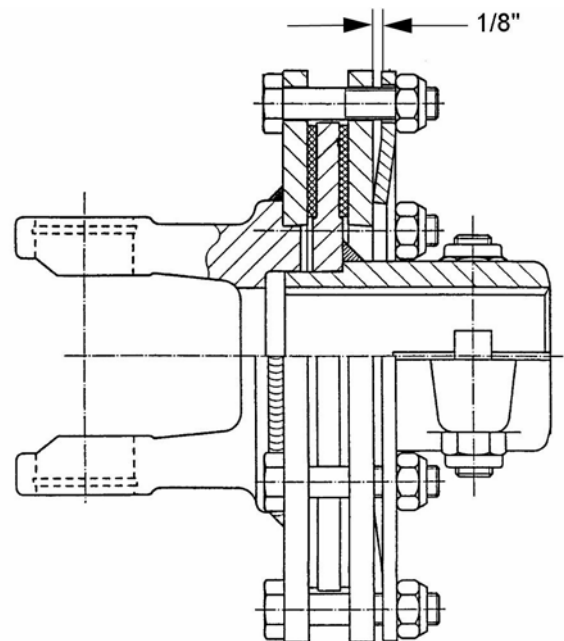

Figure 15. Slip Clutch Assembly
3. Mark outer plates of slip-disc clutch as shown in Figure 15.
9. Reassemble clutch and tighten bolts no more than 1/8 of a turn at a time until desired setting of 1.26" on BB48X, BB60X and BB72X cutters is reached. For BB84X cutters, set to 1.36". See Figure 15.
4. Hold clutch hub (3) solid and turn shaft to make sure clutch slips.
5. If clutch does not slip freely, disassemble and clean the thrust plate faces (4), flange yoke (1), and clutch hub (3).
6. Reassemble clutch. Tighten Belleville spring (5) until it is against the thrust plate (4) of the clutch, and then back off each of the six nuts by two full revolutions. The gap between Belleville spring and thrust plate should be 1/8" as shown in Figure 15.